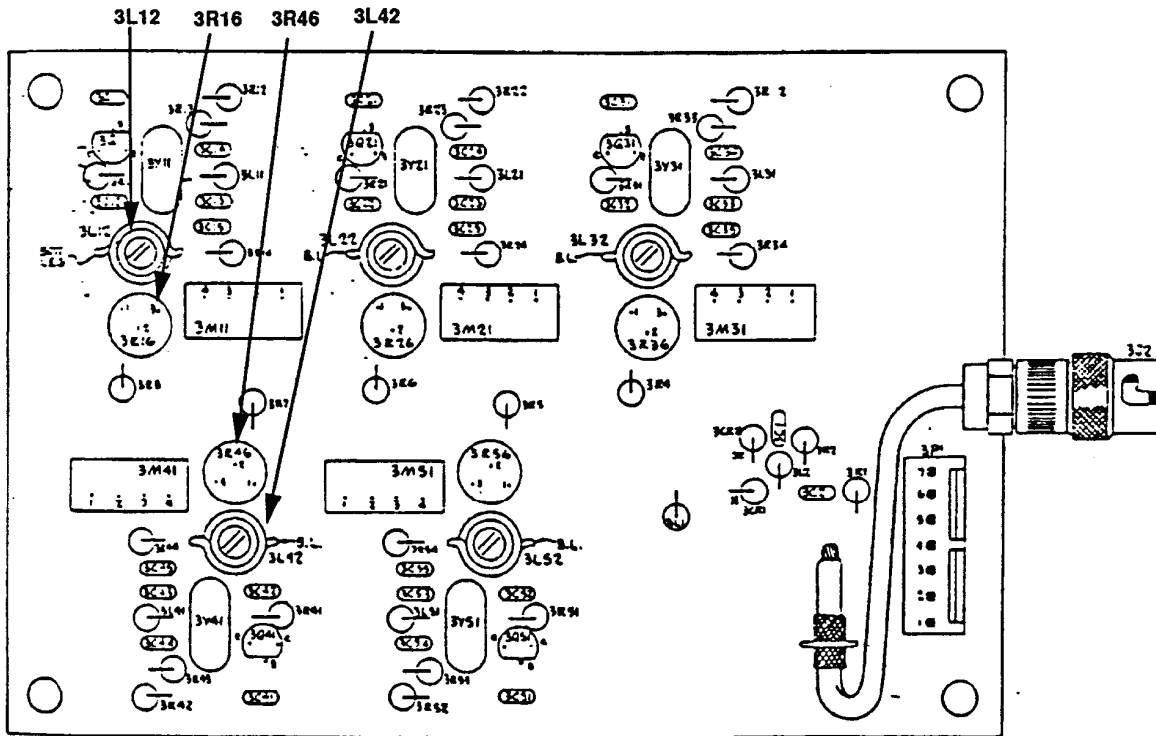

Figure 6. RF oscillator circuit card assembly adjustment.
- (1) Press and hold **REC TEST PRESS** button while adjusting 3L42 (fig. 6) for a measuring receiver indication between 242.997 and 243.003 MHz (R).
- (2) Press and hold **REC TEST PRESS** button while adjusting 3L12 (fig. 6) for a measuring receiver indication between 282.796 and 282.804 MHz (R).
- (3) Press **REC TEST PRESS** button while adjusting 3R46 (fig. 6) for a measuring receiver indication between -80.9 and -88.9 dBm (R).
- (4) Press **REC TEST PRESS** button while adjusting 3R16 (fig. 6) for a measuring receiver indication between -80.9 and -88.9 dBm (R).